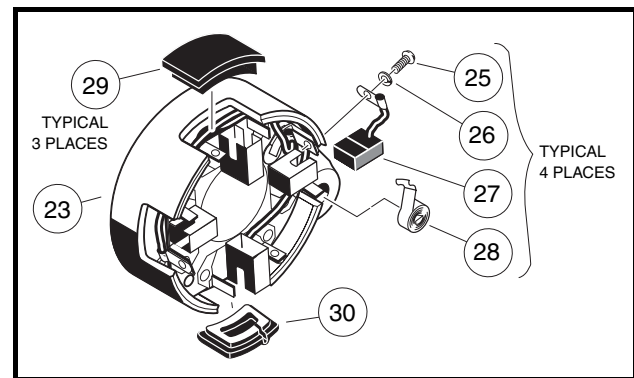
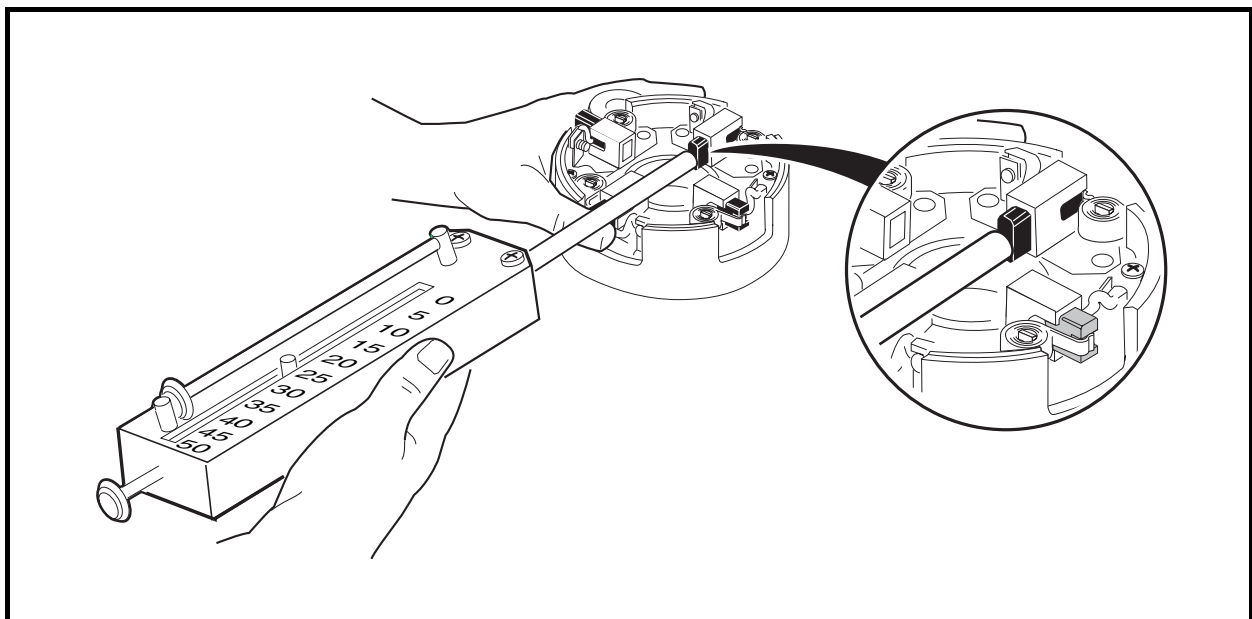

Figure 14-3 Brush Covers and Brushes
Figure 14-5 Brush Spring Tension Test
- Remove brush covers (29 and 30), screws (25) and lock washers (26), brush springs (28), and brushes (27) (Figure 14-3, Page 14-2). See following NOTE.
2. Install the four brushes (27) into their holders and insert the four brush springs (28) (**Figure 14-3, Page 14-2**). Using a spring scale, test brush spring tension. If any spring has a tension less than 24 ounces (6.67 N), replace all four springs (**Figure 14-5, Page 14-3**). **See following CAUTION.**
1. Connect the brush wires to the holders using four lock washers (26) and four screws (25), making sure the crossover leads are connected also. Tighten the screws to 31 in-lb (3.5 N·m) (**Figure 14-3, Page 14-2**).
4. Push the brushes down into the holders. Position springs into the notches in the brushes. Install the brush cover (30) that has the drain hole in it next to the A2 terminal. Install the remaining three brush covers (29) in the openings in the commutator end cover (23) (**Figure 14-3, Page 14-2**).
10. Push the brushes down into the holders. Place springs into the notches in the brushes. Install the brush cover (30) that has the drain hole in it next to the A2 terminal. Install the remaining three brush covers (29) in the openings in the commutator end cover (23) (**Figure 14-3, Page 14-2**).